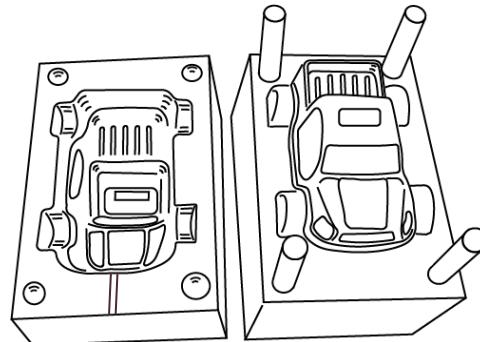

Figure 5
c. Figure 5 shows the mould of a toy vehicle to be manufactured in industry.